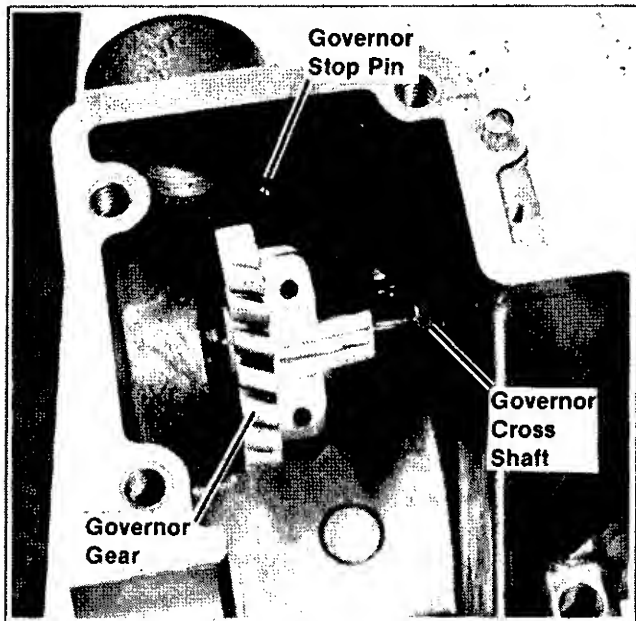

Figure 8-1. Governor Gear And Cross Shaft - Installed
1. Slide the governor gear onto the governor stub shaft located inside the crankcase as shown in Figure 8-1.